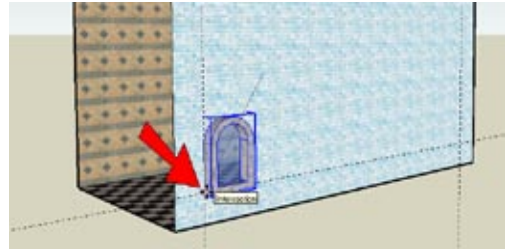

Figure 1-24
6. Place this corner at the intersection point of the bottom and left construction lines, as shown in Figure 1-24 (make sure you see the *Intersection* inference, which is a snap point).